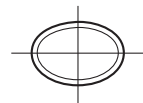

Fig. 11
- If the cut surface is tilted and has a step difference or the pipe is deformed, it cannot be machined to the correct groove size. (See Fig. 11)